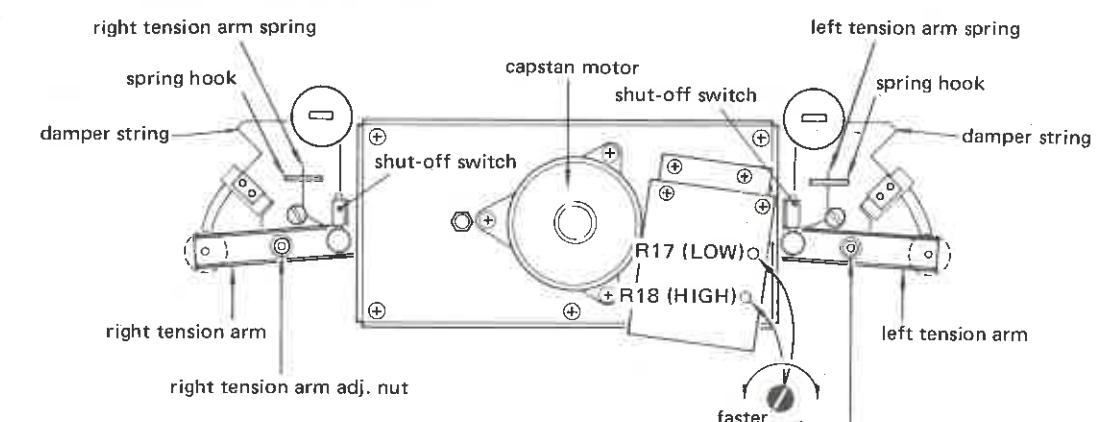

Fig. 2-8 Tension arm height, tension arm force, damper function, and tape speed
- Play the tape. Adjust R18 (see Fig. 2-8) for a reading of 3,000 Hz  $\pm 5$ Hz.